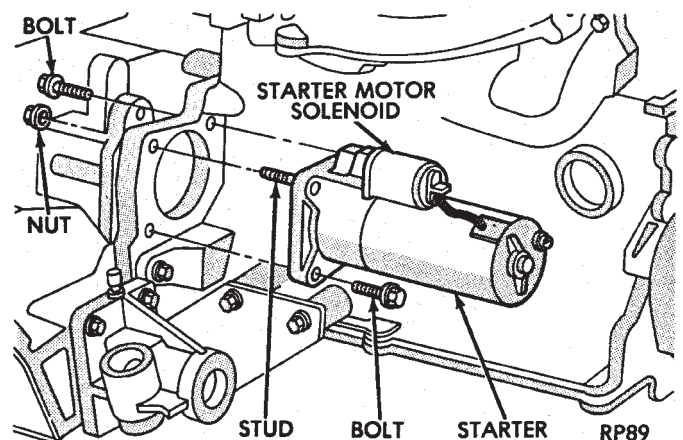

Fig. 3 Bosch Starter—2.5L Engine
- (4) Remove two bolts and one nut attaching starter to engine (Fig. 3).